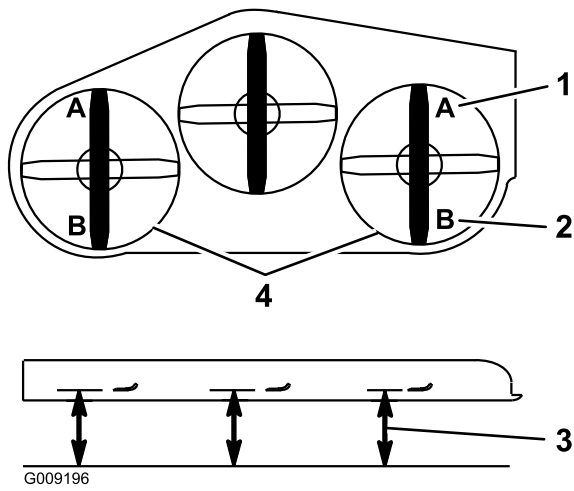

Figure 95
8. On both sides of the deck, measure from the level surface to the front tip of the blade (Position A) as shown in Figure 95.
14. On both sides of the deck, measure from the level surface to the back tip of the blade (position B) as shown in Figure 95.